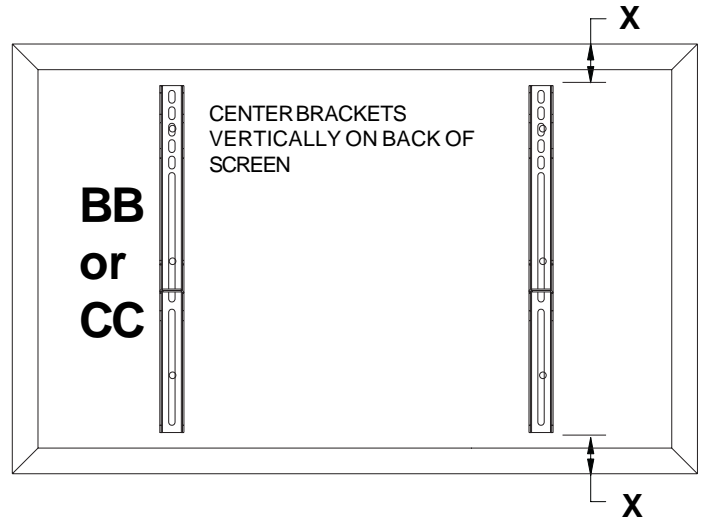
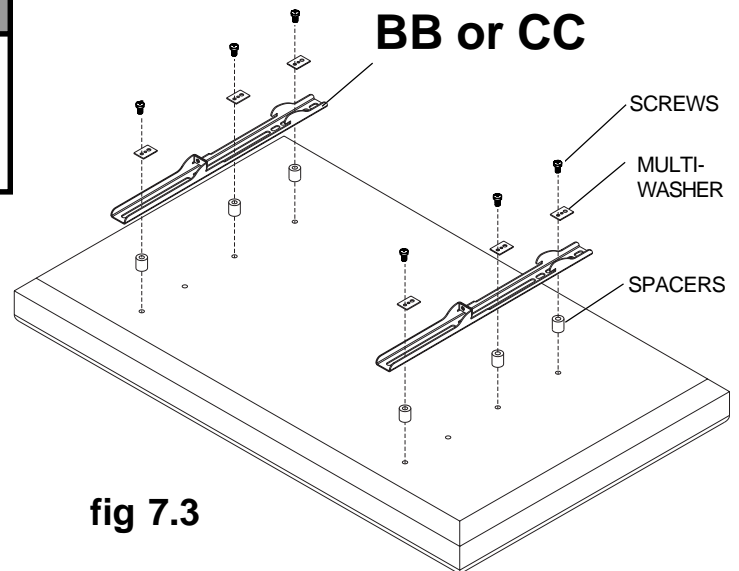

fig 7.1
fig 7.3
- 7** To prevent scratching the screen, set a cloth on a flat, level surface that will support the weight of the screen. Place screen face side down. If screen has knobs on the back, remove them to allow the adapter brackets to be attached. Place adapter brackets (**BB or CC**) on back of screen, align to holes, and center on back of screen as shown in figure 7.1. Attach the adapter brackets to the back of the screen using the appropriate combination of screws, multi-washers, and spacers as shown in figure 7.3.